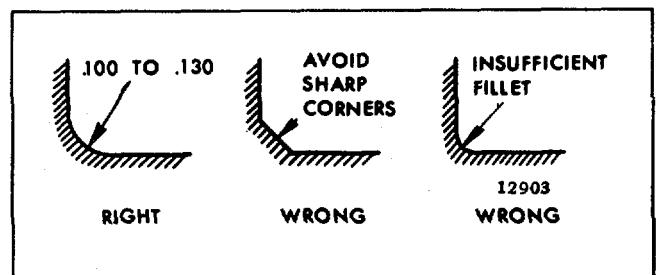

FIG. 7 - Crankshaft Journal Fillets
3. All journal fillets must have a .100" to .130" radius between the crank cheek and the journal and must not have any sharp grind marks (Fig. 7). The fillet must blend smoothly into the journal and the crank cheek and must be free of scratches. The radius may be checked with a fillet gage.